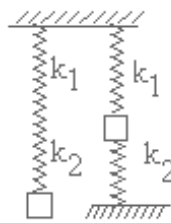

Figure 1
1. Determine the period of vibration of a weight 'P' attached to springs of stiffness k_1 and k_2 , in two different cases as shown in the figure 1. [16]